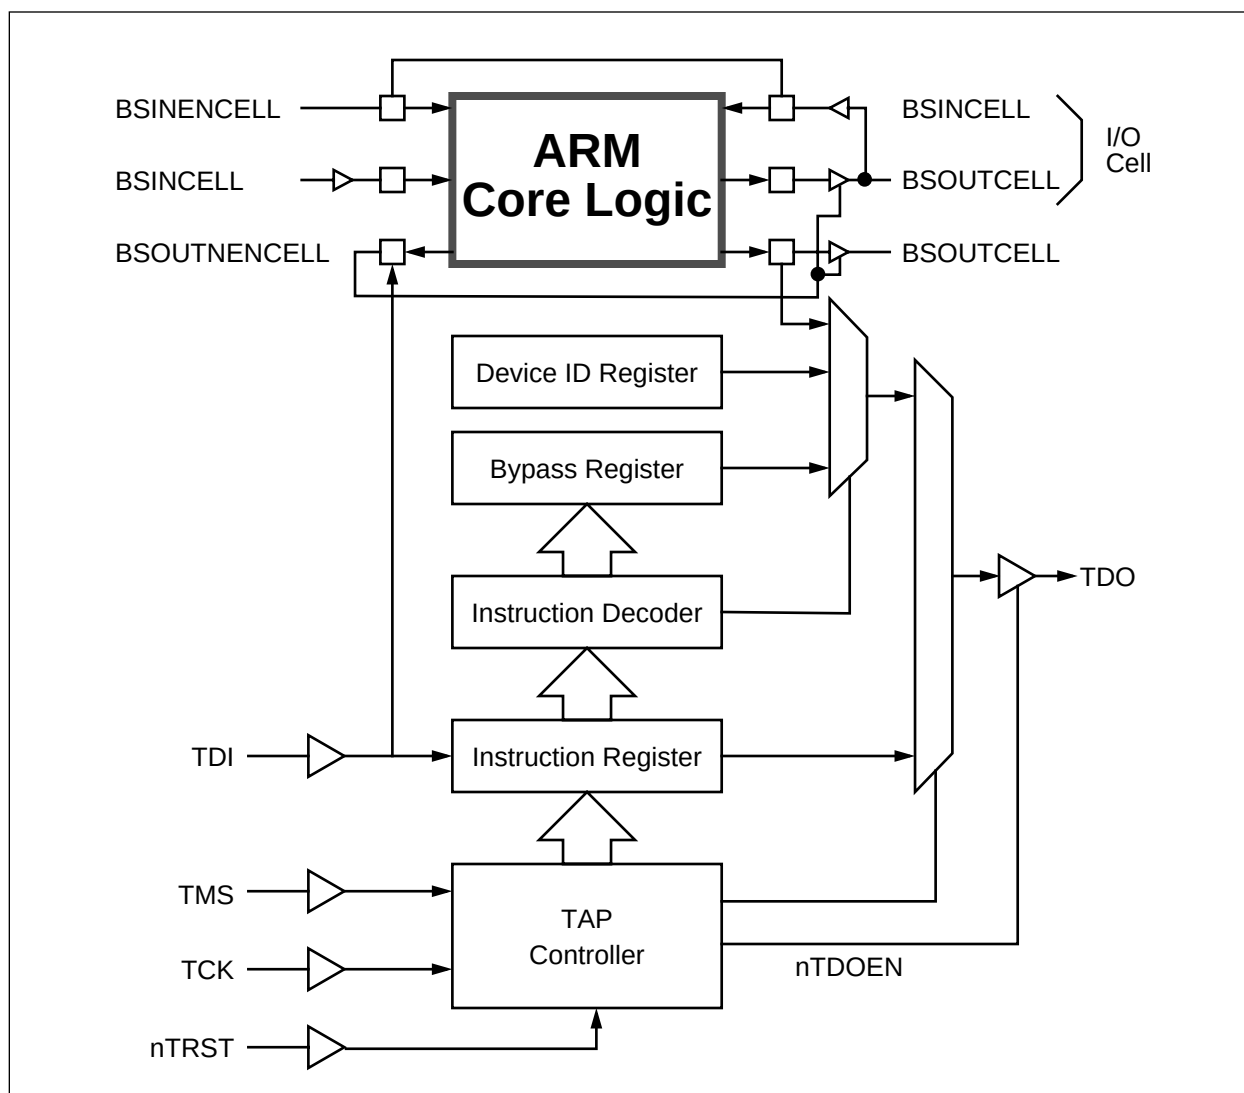

Figure 11-2: Boundary-scan block diagram
► *Figure 11-2: Boundary-scan block diagram* illustrates the structure of the boundary-scan logic.